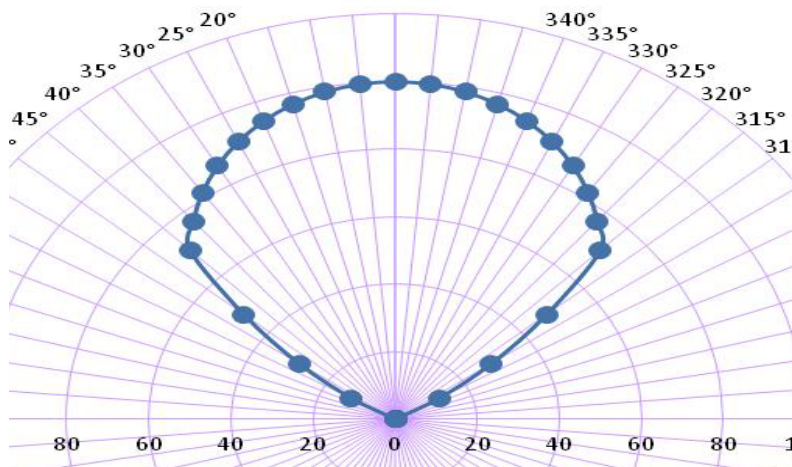

Figure 2-1
2. The installation shall take into account that the FS20X orientation should be with the base horizontal (see Figure 2-1) as the view angle in this direction is 90°. The vertical angle is 80°.